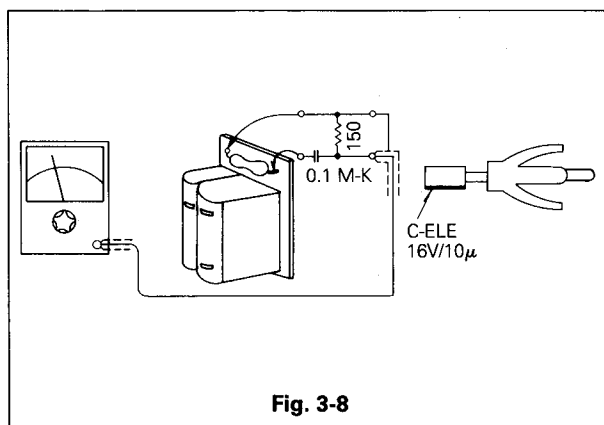

Fig. 3-8
- A. Insert a shorted RCA type Phonoplug (Refer to Fig. 3-8) into the AUDIO IN (LCH and RCH) terminals and set the recorder to 2H RECORD mode.
- B. Connect an AC voltmeter with a probe (high pass filter) across resistor on A/C head board as shown in Fig. 3-8.